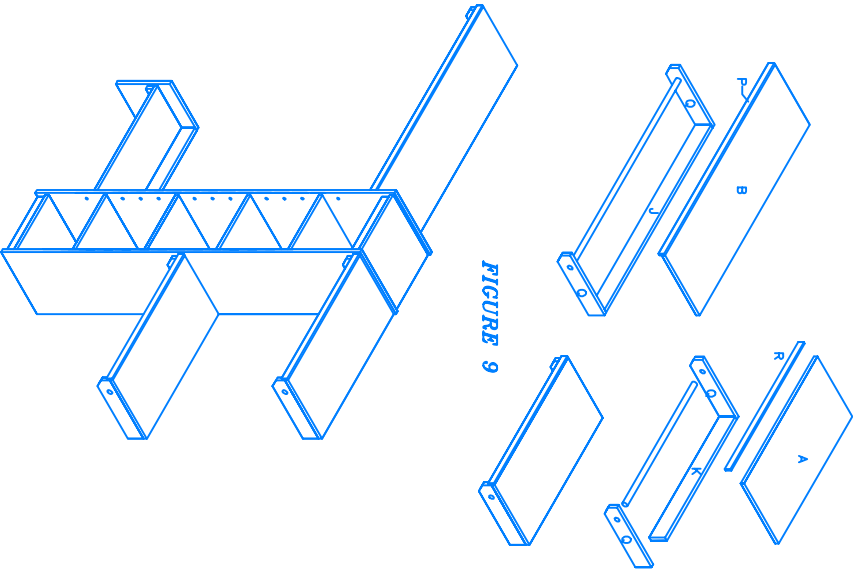

FIGURE 9
- 5) To locate your closet shelves measure up from floor to bottom of shelf. Using a level draw a faint line to indicate where shelf supports are mounted. Before mounting supports ensure your measurements are correct. Place two pieces Q on the ends of pieces K and J and test for fit within the closet, on either side of the middle shelf assembly. It is important that there is a tight fit. Similarly test pieces A and B. Trim the pieces if necessary, however it is better to be too long than too short! Place the dowel between pieces Q and then glue and nail pieces Q to K, as shown (Fig 9) with 1 1/2" finishing nails. Repeat same steps with Q and J pieces. Before mounting K or J try locating studs in wall and mark stud locations on pieces Q, K and J. Pre-drill each Q with four holes, using a 1/8" drill bit. These holes should be 3/4" from the rear of piece Q and 3/4" from either side of the holes (or 1/8" from the rear of piece Q and 3/4" from either side of the holes with 1/8" drill bit). Counter-sink the holes with a countersink bit. Hold up inside the closet and drill into the wall through the previously drilled holes. Where you did not hit a stud in the wall, insert an expansion shield, hammering it in. It is better if you can locate your screws in the wall framing. Mark this IK assembly with an X somewhere so you do not get it mixed up with the other similar assembly. Repeat this procedure with the bottom KI shelf and also with the JI shelf. Glue and nail the doorstop R to the shelf A with 1 1/4" finishing nails. Keep the top edges of R and A flush. Repeat for the other AO shelf and also the BP shelf. Nail the two AO shelves onto the KI assemblies with 1 1/4" finishing nails. Similarly nail the BP shelf to the JI assembly. Set the nails with a nail set.